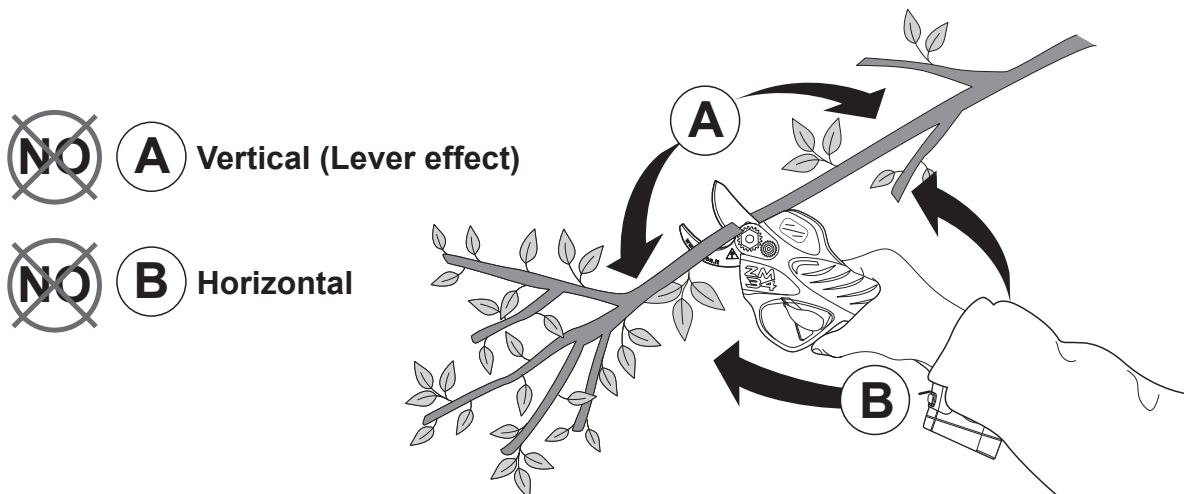

Fig. 5
If the blade is not able to cut the branch due to its excessive diameter or the hardness of the wood it must not, for any reason, be forced up and down (A) or sideways (B) during the cutting cycle (**Fig. 5**).